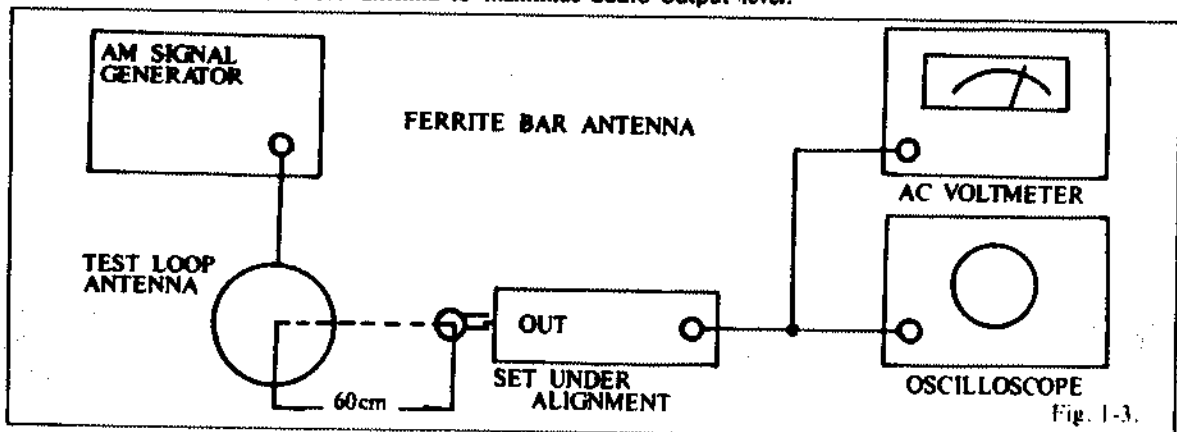

Fig. 1-3.
- Set up the test equipment as Fig. 1-3.